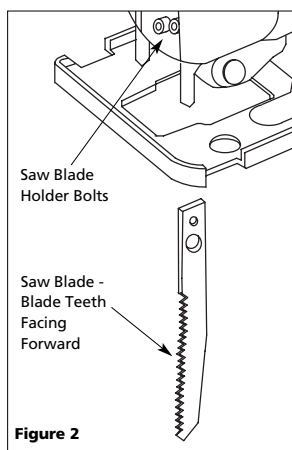

Figure 2
- Loosen the two bolts counterclockwise on the blade holder with the allen wrench (see Figure 2).
- With the blade teeth facing forward, insert the blade into the blade holder as far as it will go. Make sure that the back edge of the blade fits into the blade support bearing (see Figure 2).